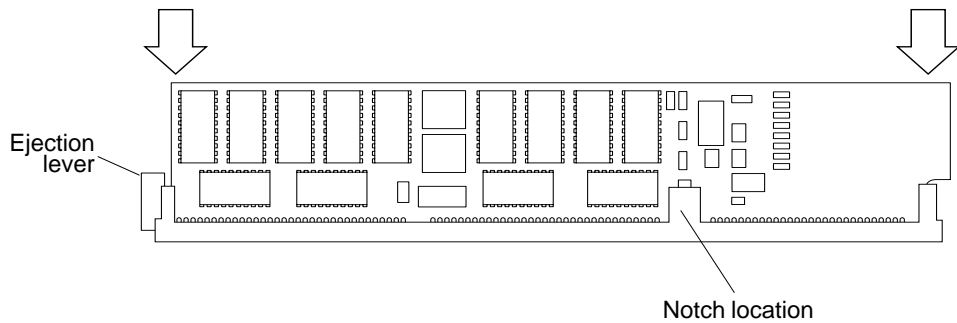

FIGURE 11-30 Aligning the NVSIMM in the Slot, Back View
7. Hold the NVSIMM by the edges and, align the notch with the area between the two SIMM slots. The surface with the battery must face the system unit back panel (FIGURE 11-30).